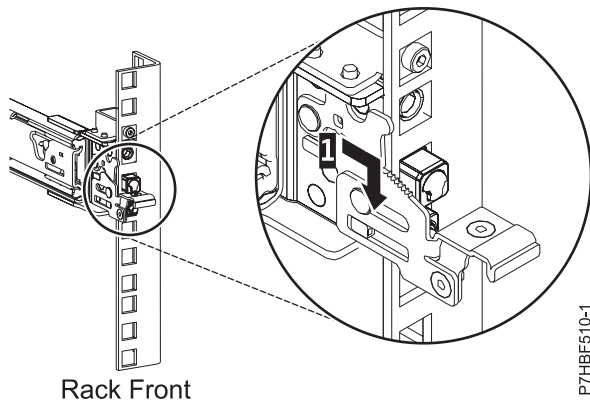

Figure 6. Rack front rail with pins seated
4. Pull the slide rail forward and insert the two pins (1) on the front of the rail into the two lower holes of the EIA marked on the front of the rack. Drop the rail into place until it clicks into place, as shown in Figure 6.